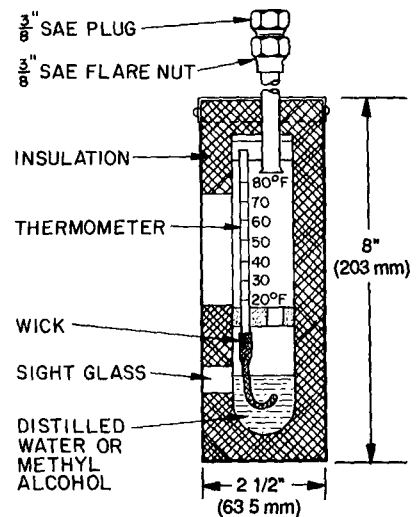

Fig. 21 — Typical Wet-Bulb Type Vacuum Indicator
- absolute pressure manometer or wet-bulb vacuum indicator (Fig. 21)